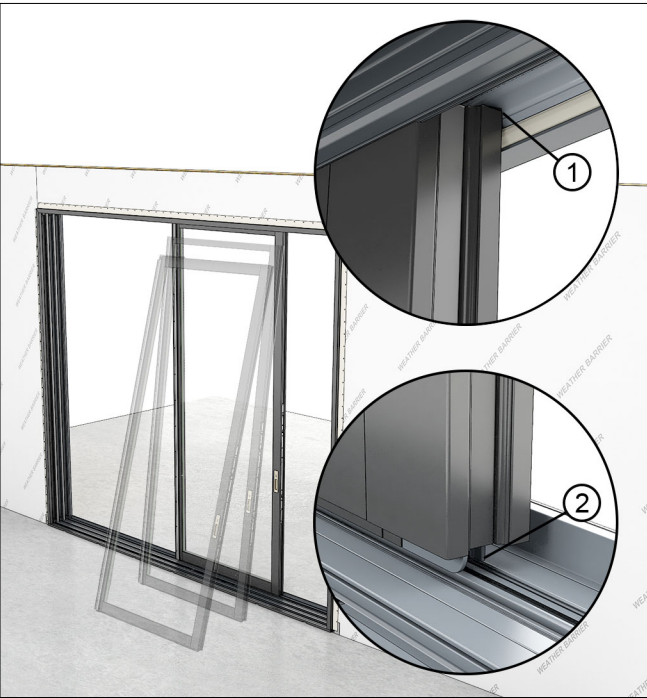

Figure 81
1. Install the primary operating panels or inactive panels first. Lift the top of the panel into the interior most head jamb track. Then swing the bottom over the sill track until centered over the roller guide. Set the panel gently onto the guide. See Figure 81.